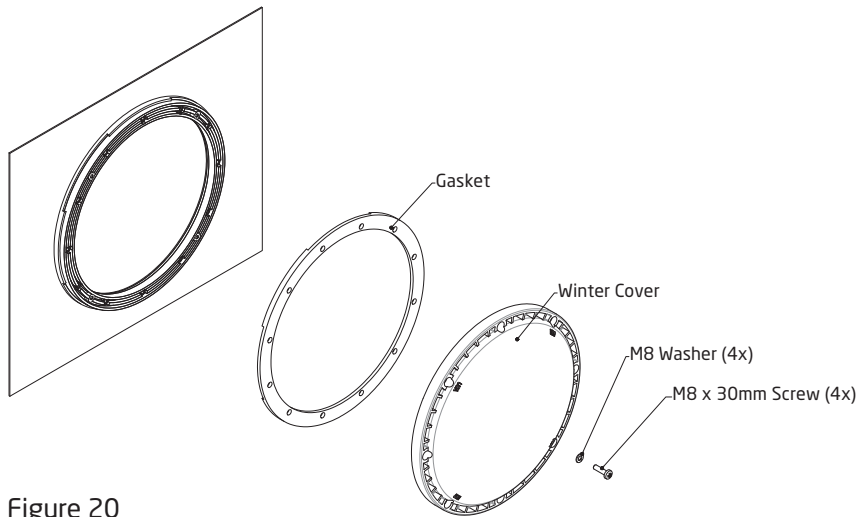

Figure 20
*In areas subject to freezing water temperatures, you should protect your equipment. We recommend you purchase a winter cover kit part #2326000010K. This kit includes one (1) winter plate, one (1) gasket, four (4) M8 washers, and four (4) M8 x 30mm screws. (See Figure 20)*